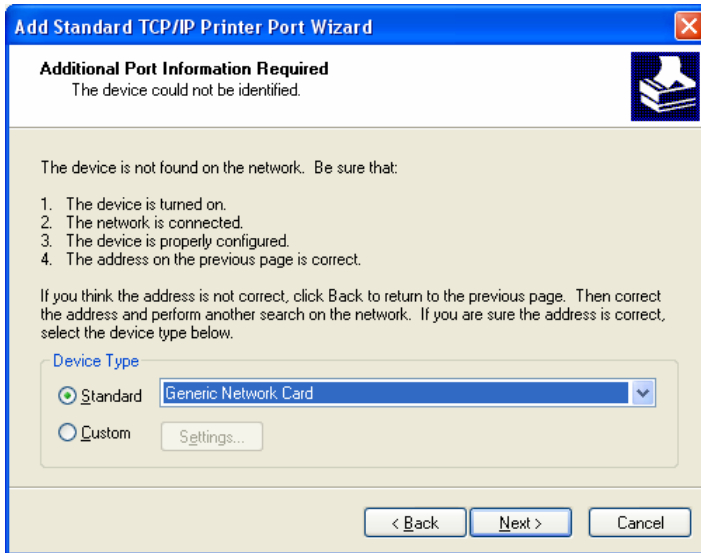

Figure 5.5.6
- 6) Default the content as shown in Figure 5.5.6 and click “Next”;